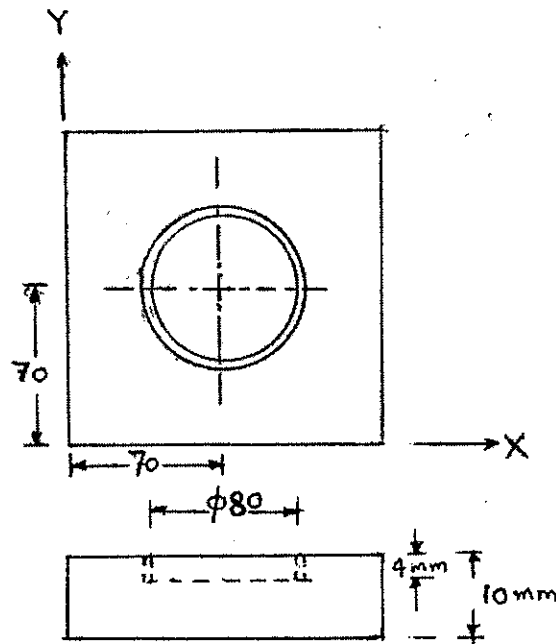

FIG. 2
- b) Write a manual part program to machine a circular slot as shown in fig. 2 in a CNC milling machine using an end-milling cutter. 12